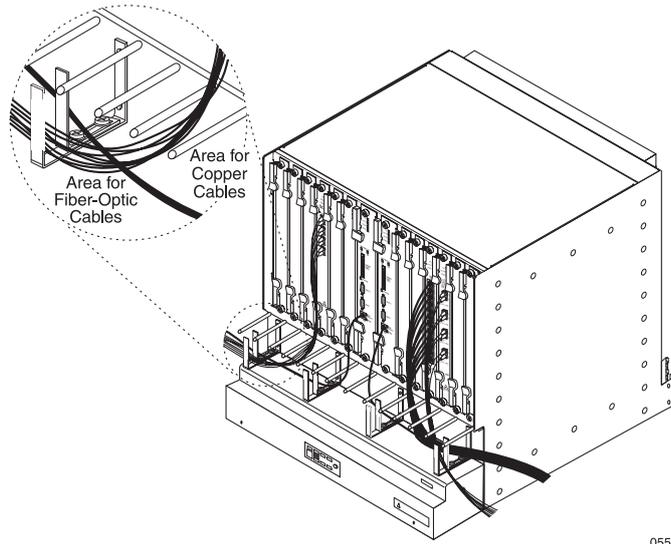

Figure 19 Cable Routing at the Front of the SmartEdge 800 Chassis
Using the adjustable cable tray, you connect and route the copper cables, with the exception of the FE-GE breakout cables, from the outer slots first, working inward, placing them in the inner partition. After all copper cables are routed, you can connect and route the fiber-optic cables in similar fashion, but placing them in the outer partition; see Figure 19. You then connect and route the management access cables and finally the FE-GE breakout cables. Cable connections are made with standard cables.
1. Connect and route the copper cables; see Figure 19
2. Connect and route the fiber-optic cables; see Figure 19